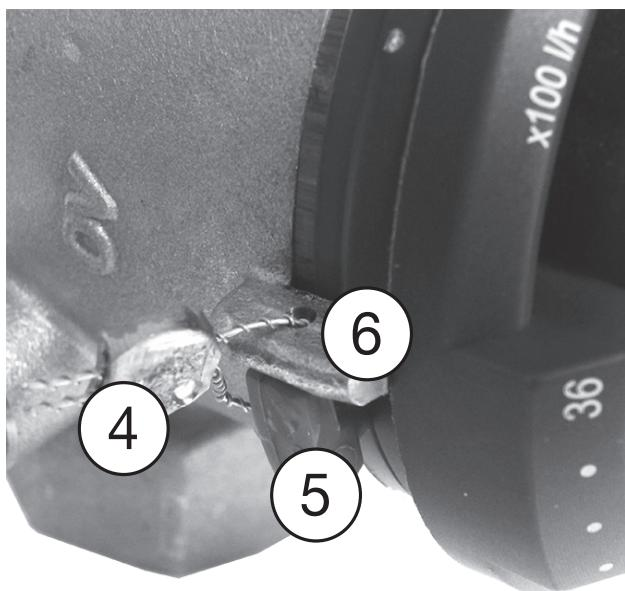

Fig. 12: Lead sealing the presetting
- 1 Remove the blocking ring (3).
- 2 Turn and press the handwheel (2) until the nominal value marking (1) points to the desired flow value (handwheel then snaps back into toothed ring).
- 3 Reinsert the blocking ring (3).
Optionally, the blocking ring (5) can be sealed at the nominal value marking (6) using the wire seal kit (4) (accessory, item no. 1089091) (see Fig. 12).